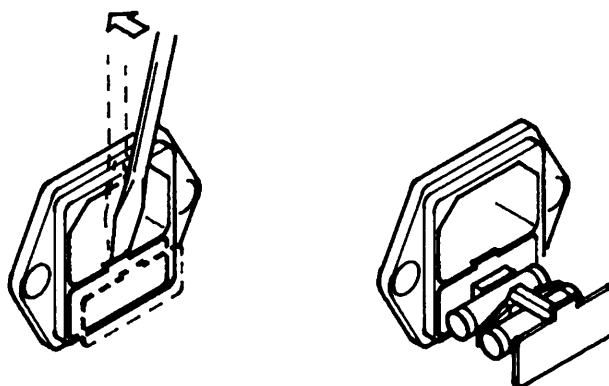

Figure 1-2 Removing the Fuse Holder
2. — Remove the fuse holder as shown in Figure 1-2.